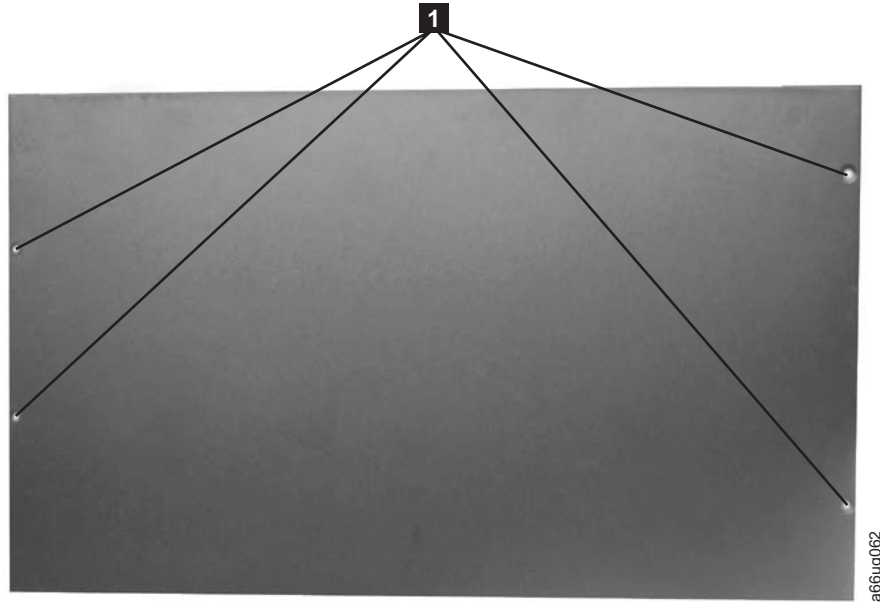

Figure 3-10. Top cover of the 5U control module
1. Remove the 4 - #2 Phillips top cover screws (**1** in Figure 3-10).
4. Install the top cover, using the 4 Phillips screws (see **1** in Figure 3-10).